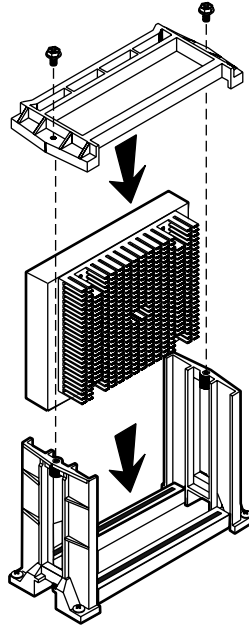

Figure 11: Installing the Processor Cartridge
7. Remove the replacement processor cartridge from its protective wrapping and place it in the cartridge supports for the slot 1 connector. See Figure 11.